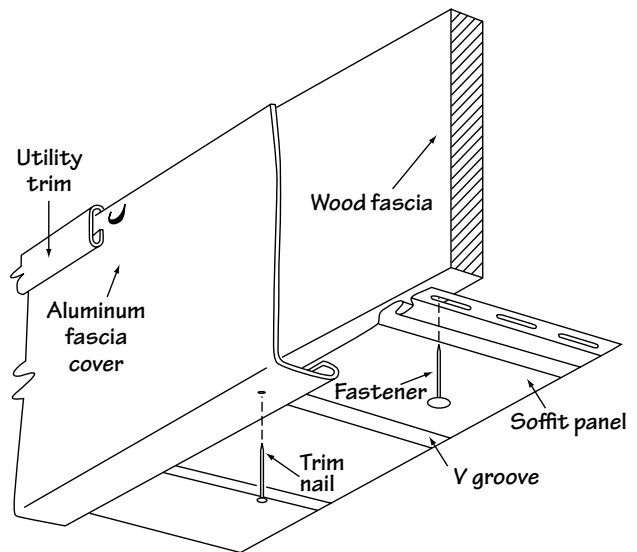

Figure 69.
- The fascia covers can be installed into utility trim (either factory-formed or field-fabricated) (Fig. 69) or behind the existing drip edge. The fascia has to be fastened with aluminum or stainless steel painted trim nails into the bottom leg, no more than 24" (610mm) on center.